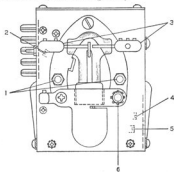

FIG. 5
a. If the vacuum contact, S116, requires replacement the following procedure is recommended (Refer to Figure 5).